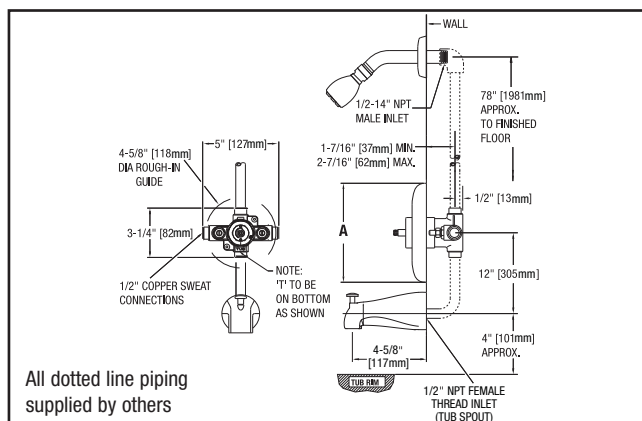

Figure 1: Rough-in Dimensions - Tub & Shower
- For tub and shower installations (see Figure 1). Pipe bottom outlet port "T" directly to the diverter tub spout. The mixer body is designed to operate without the use of a twin ell. Pipe top outlet port "S" to the showerhead. Be certain that the bottom outlet port "TUB" is piped to the tub spout; if outlet connections are reversed, the mixer will not function properly.